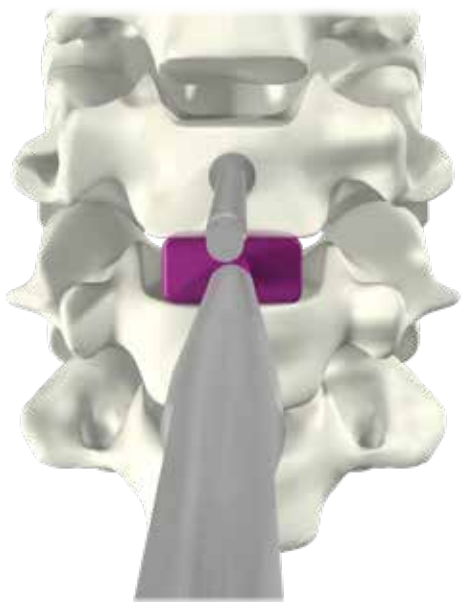

Figure 6a
- Should provide optimal endplate coverage, height restoration, and good segmental stability (**Figure 6a**).